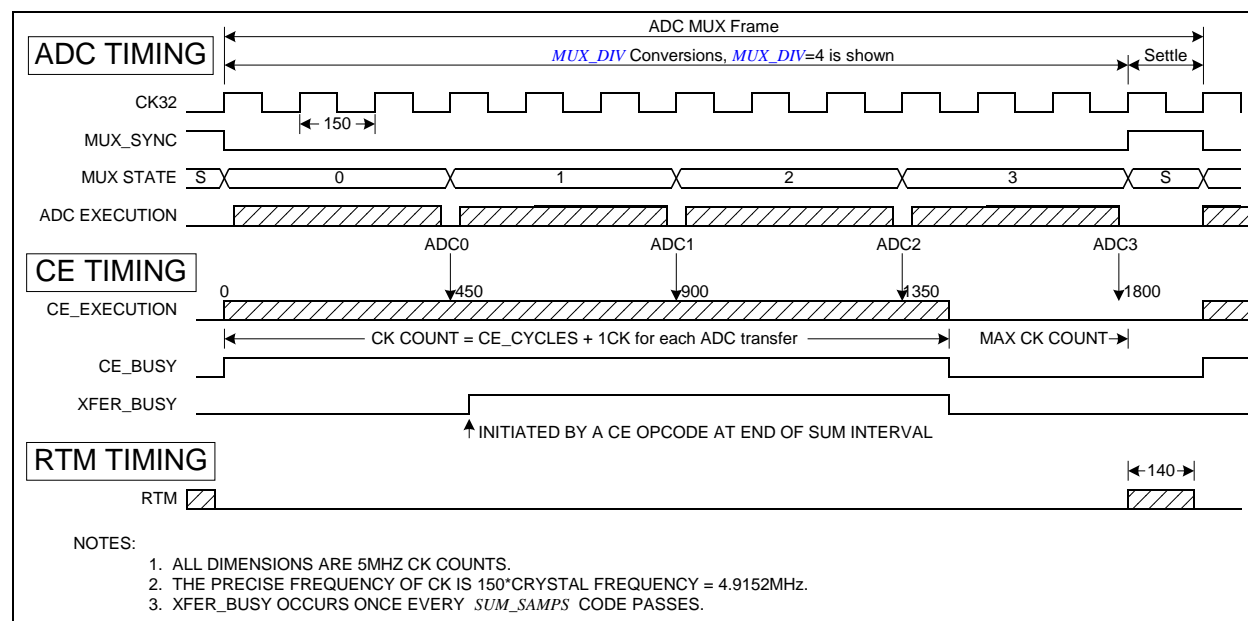

Figure 11: Timing Relationship Between ADC MUX, CE, and RTM Serial Transfer
Figure 11 summarizes the timing relationships between the input MUX states, the CE_BUSY signal, and the RTM serial output stream. In this example, *MUX_DIV[3:0] = 4* (I/O RAM 0x2100[7:4]) and *FIR_LEN[1:0] = 10* (I/O RAM 0x210C[1]), (384), resulting in 4 ADC conversions. An ADC conversion always consumes an integer number of CK32 clocks. Followed by the conversions is a single CK32 cycle.
Figure 11 also shows that the RTM serial data stream begins transmitting at the beginning of state S. RTM, consisting of 140 CK cycles, always finishes before the next CE code pass starts.